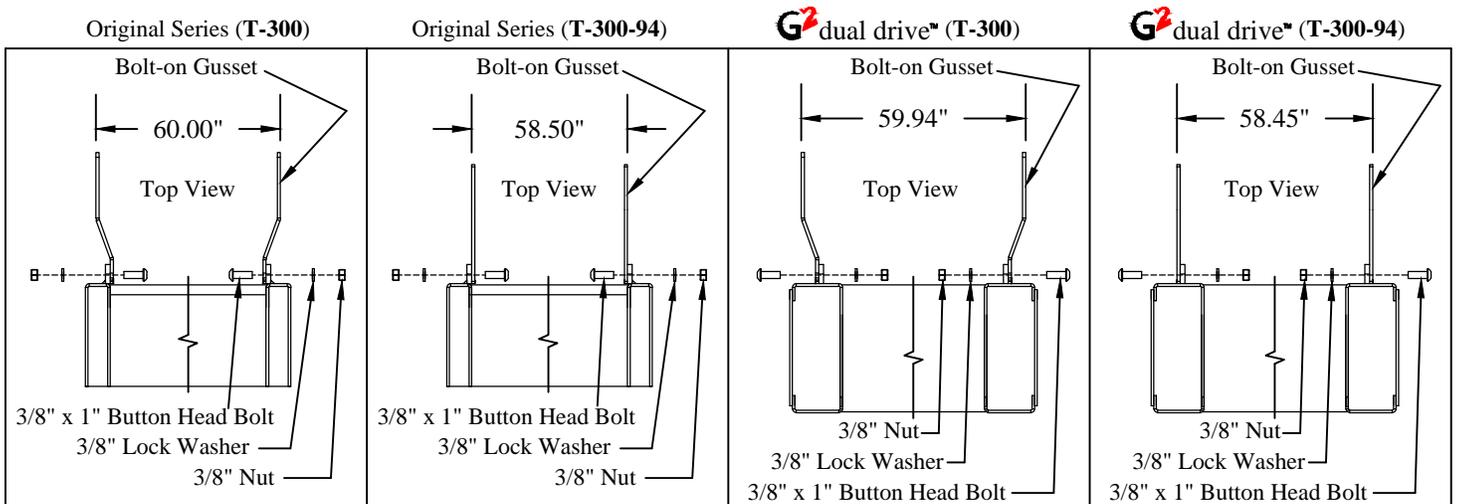

Figure 4: Top view of liftgate bolt-on gussets.
1. **Install** the eight (8) 3/8" x 1" button head bolts, lock washers, and nuts in the position shown for your configuration (Figure 4).
Note: If gussets are already welded to the uprights, verify the gusset dimensions (Figure 4) and you do not need the bolt-on gussets.